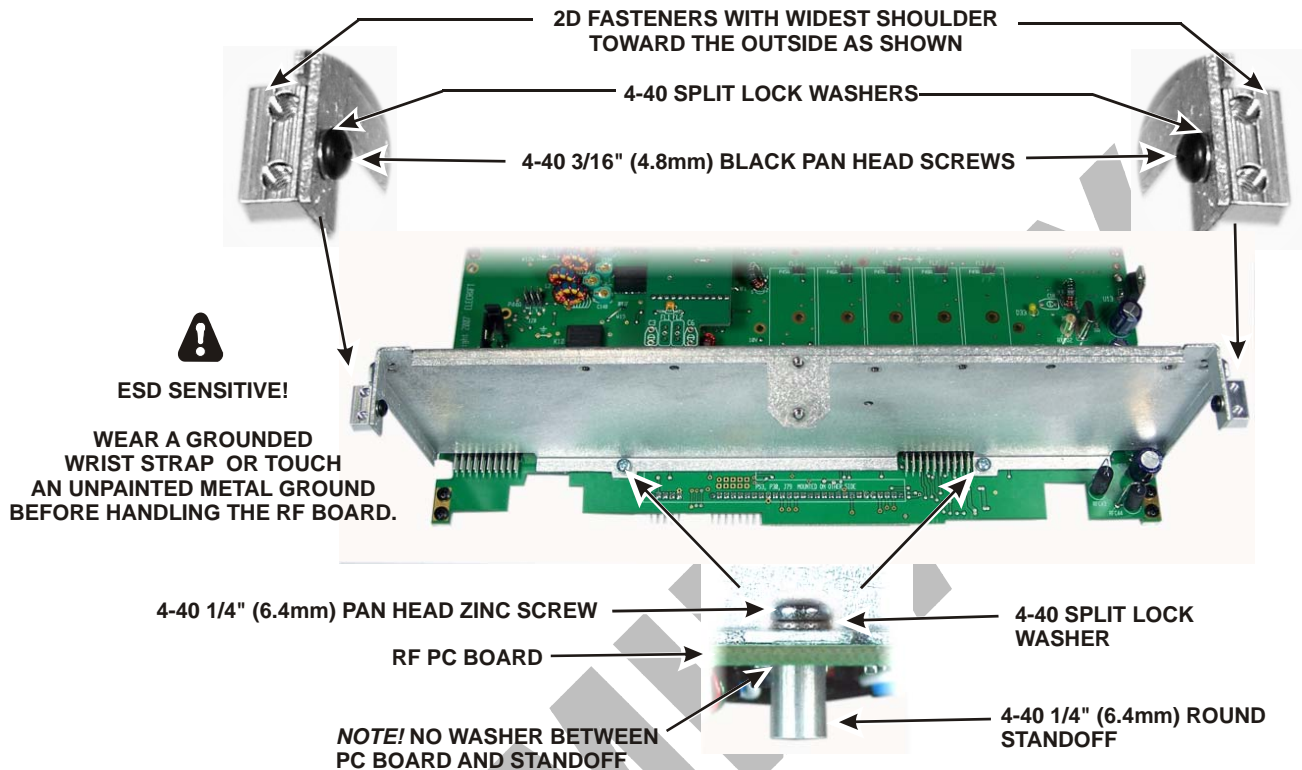

Figure 14. Installing Front Panel Shield.
□ Mount the front panel shield on the RF board as shown in Figure 14, then mount a 2D fastener on each ear at the top of the shield as shown. Be sure the 2D fasteners are oriented with the widest part between the two holes and the edge toward the outside as shown.